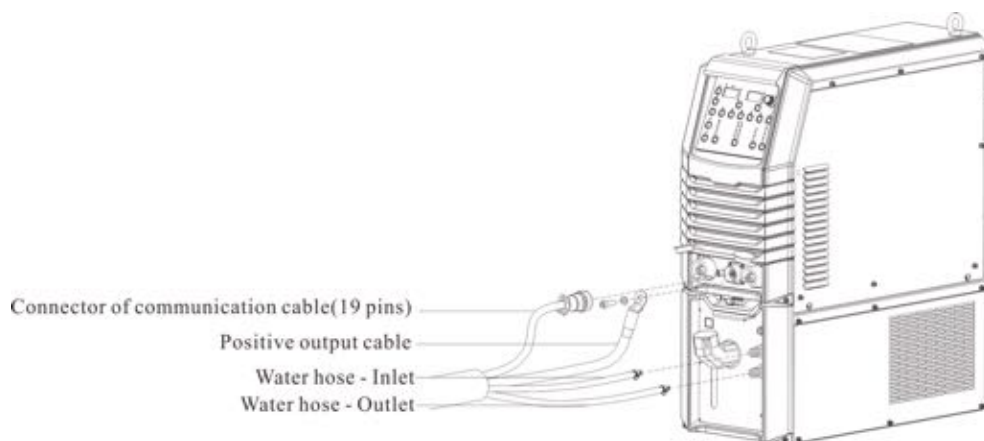

Figure 2-1 Connection of the welding power source
2. Plug the wire-feeder control cable into the socket of the welding power source and fasten it as shown in Figure 2-1.